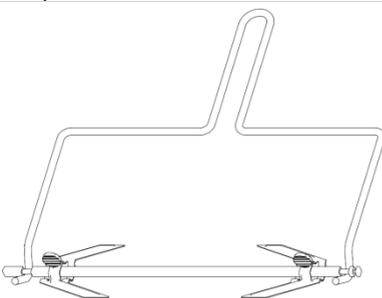

Fig. 8
- Always use the rotisserie handle to remove the spit from the oven when hot. Place the hooked ends of the rotisserie handle under the spit and into the notches (figs 8 & 9) and lift out.